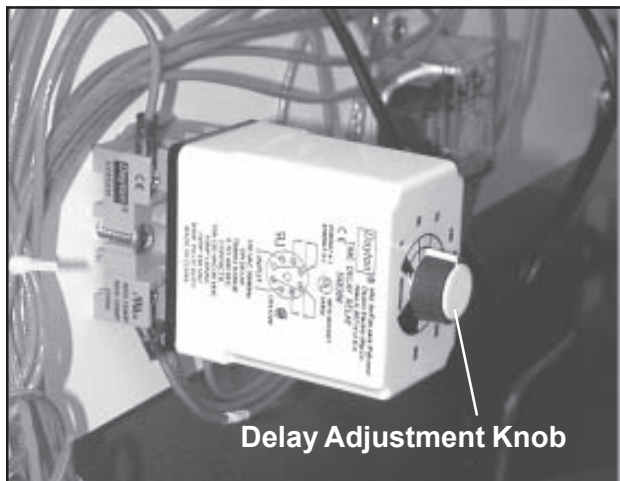

Figure 46. Alarm Time Delay Relay
2. Set the alarm time delay relay to 30-seconds (Figure 46).